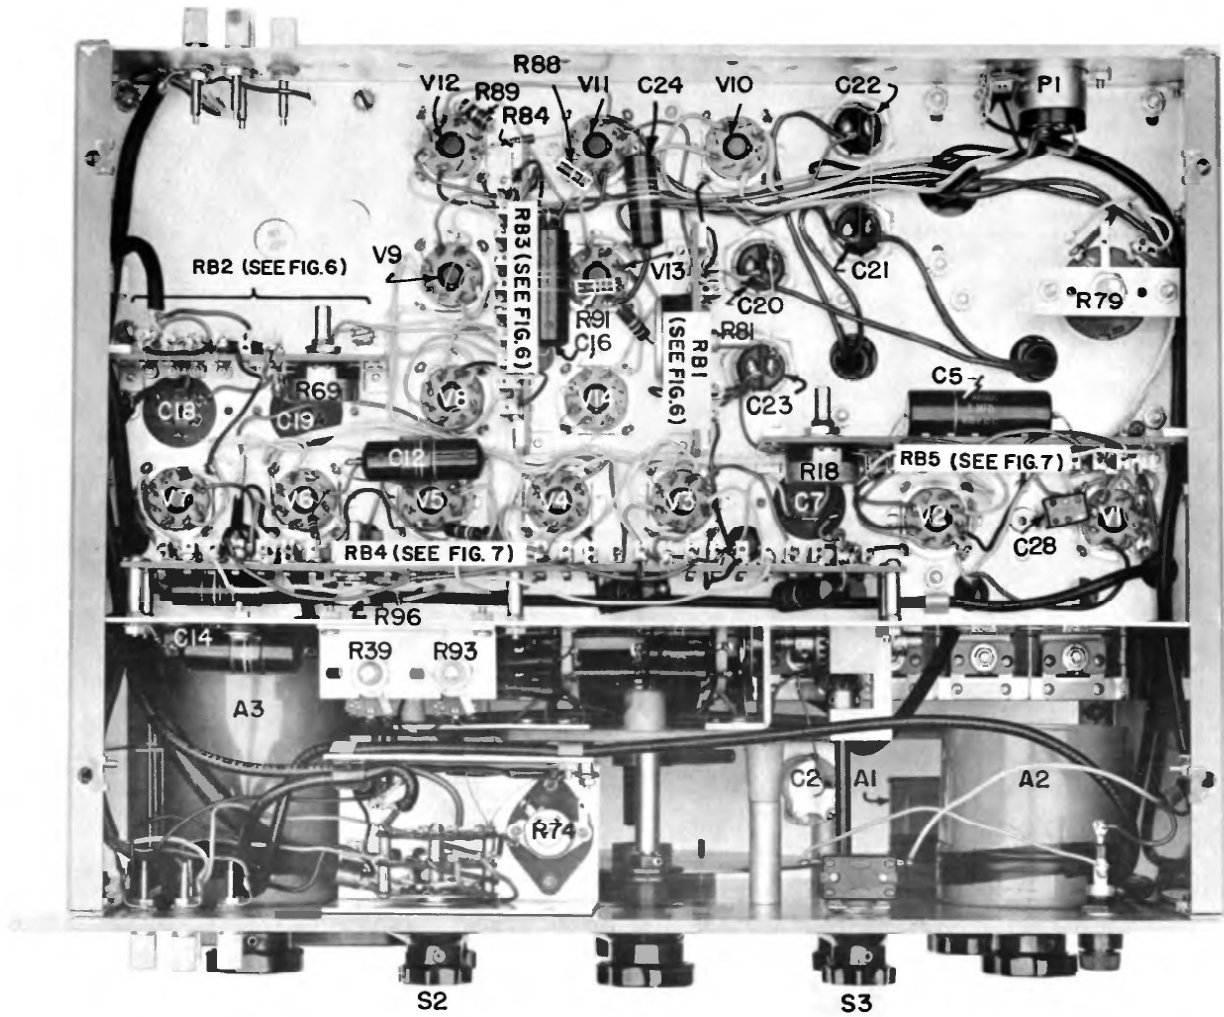

Fig. 5. Model 206A Bottom View Bottom Plate (or Cabinet) Removed
3. Adjust resistor R81 (located as shown in Fig. 5) as necessary to bring the voltage within the proper range.
1. Connect a high-impedance vacuum tube voltmeter, such as a Hewlett-Packard Model 400A, B, or C to the center tap of variable resistor R18 (Fig. 5). With the Model 206A generating 1,000 cycles, the voltage from the center tap of R18 to ground should measure 2.8 volts  $\pm$  .1 volt.
3. If amplifier gain is too low or too high, adjust variable resistor R96 (Fig. 5) to obtain approximately a 24 db gain.
Adjustment of Hum Balance: Variable resistor R79 (Fig. 5) provides an adjustment for minimizing the beat between the oscillator and the power supply frequency. Either of two methods may be used for the adjustment.
4. Switch the IMPEDANCE control to 600G, and adjust resistor R74 (located as shown in Fig. 5) until a 4 volt indication is obtained on the external voltmeter. Repeat until there is no change between the output levels of the 600 and 600G positions.